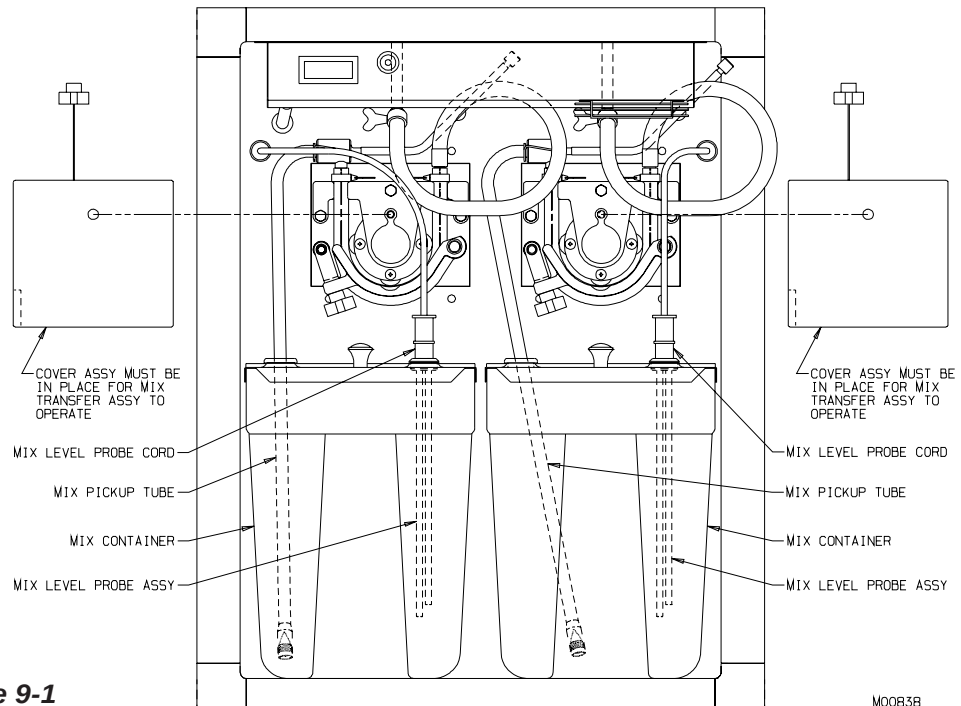

Figure 9-1
4. See figure 9-1. Remove the stainless steel pickup tubes from the mix tanks. Remove the mix tanks while pulling the stainless steel pickup tube from the mix tank. Place mix in a clean, sanitized container. Disconnect the mix level probe cords from the back of the